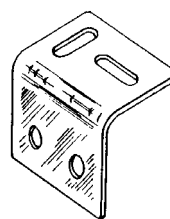

Fig.10
33. Name the item of ironmongery shown in Fig. 10 and describe a use for it.